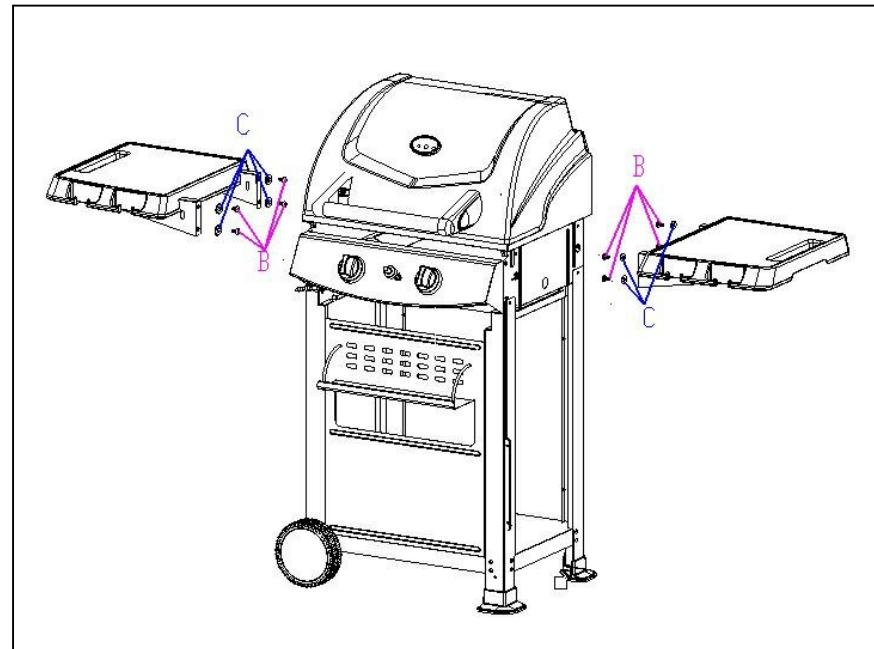

Figure 5
- STEP 5.** Secure the Side Tables to each side of Base Assembly. (Fig. 5)